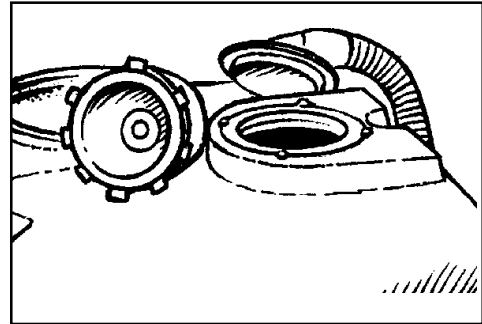

Figure 48
8. Remove the vacuum hose adapter from the top of the recovery tank by rotating it counter-clockwise and pulling it upwards (see figure 48).